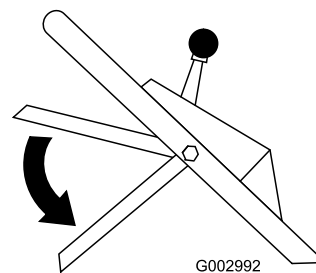

Figure 17
8. Ensure that the blade control bar down is in the lowest position (Figure 17).
2. Ensure that the blade control bar down is in the lowest position (Figure 17).
3. Ensure that the blade control bar down is in the lowest position (Figure 17).